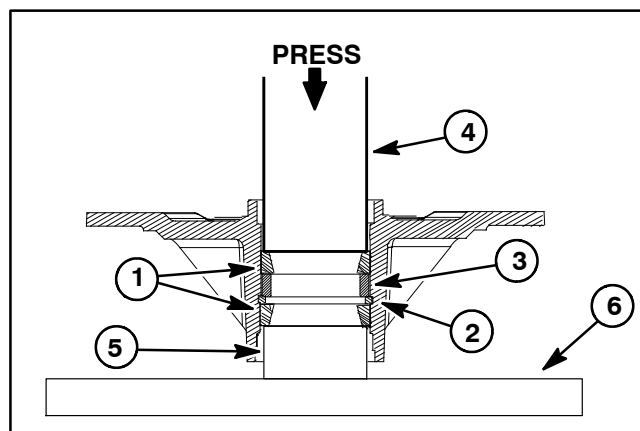

Figure 8
3. Using an arbor press, push the bearing cups into the top and bottom of the spindle housing. The top bearing cup must contact the outer bearing spacer previously installed, and the bottom bearing cup must contact the large snap ring. Make sure that the assembly is correct by supporting the first bearing cup and pressing the second cup against it (Fig 8).